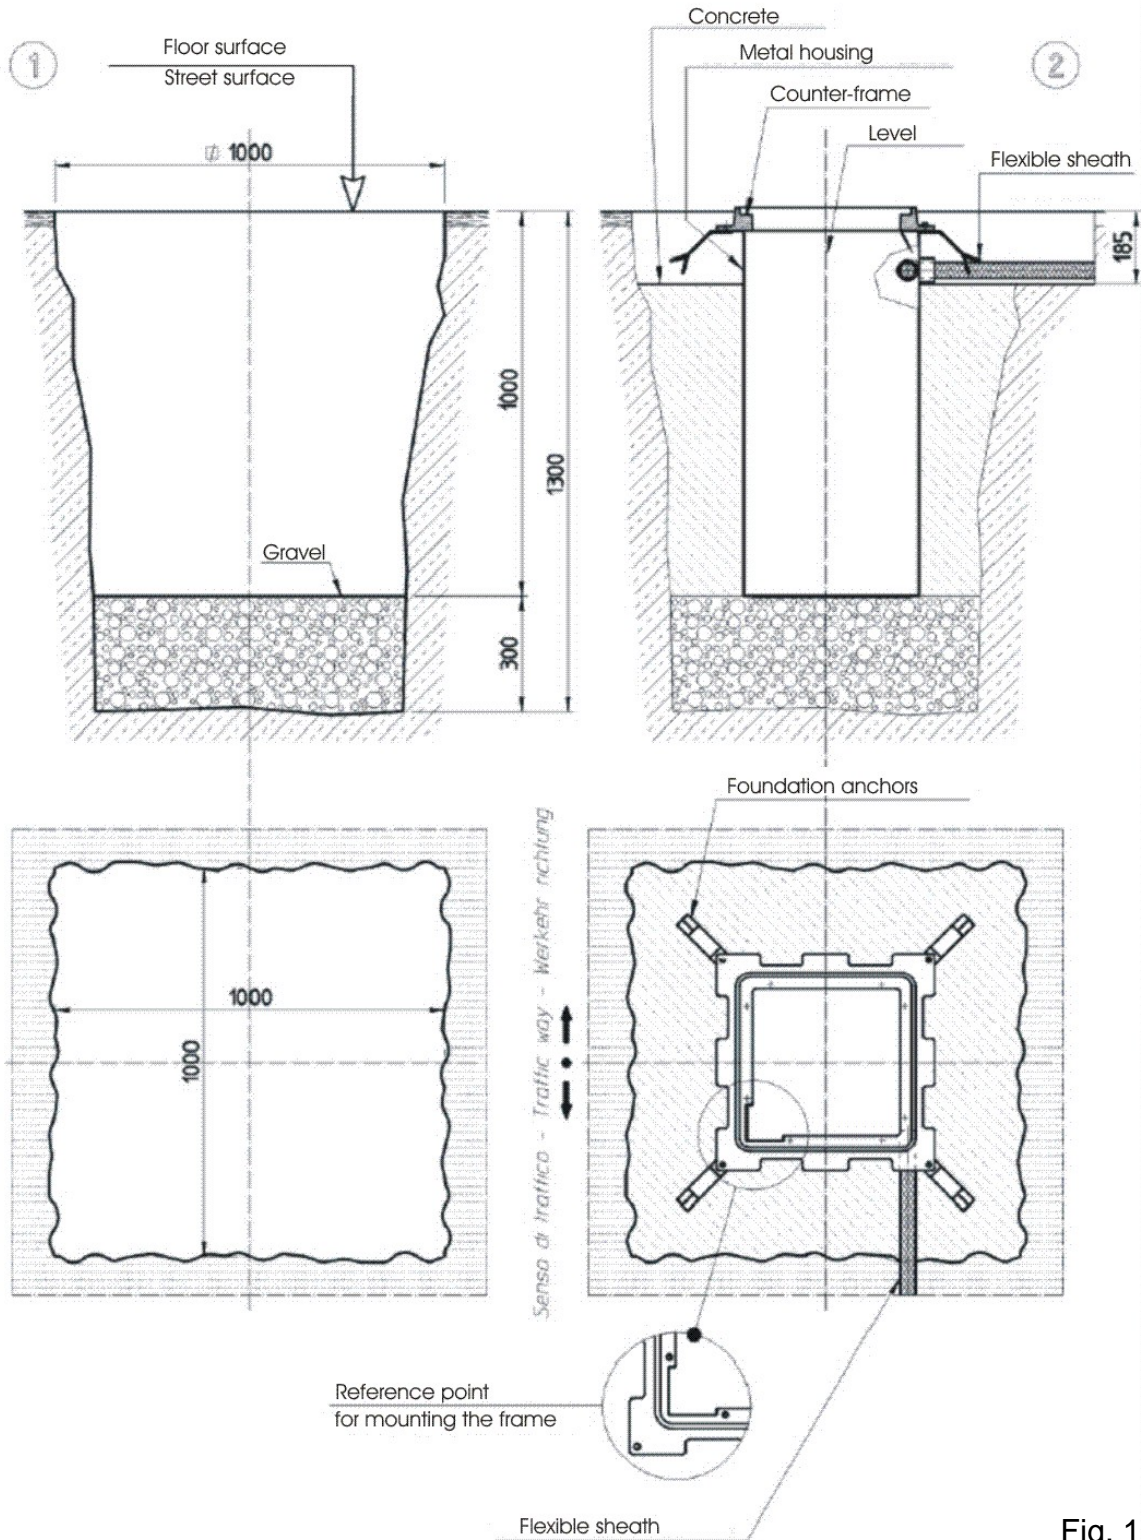
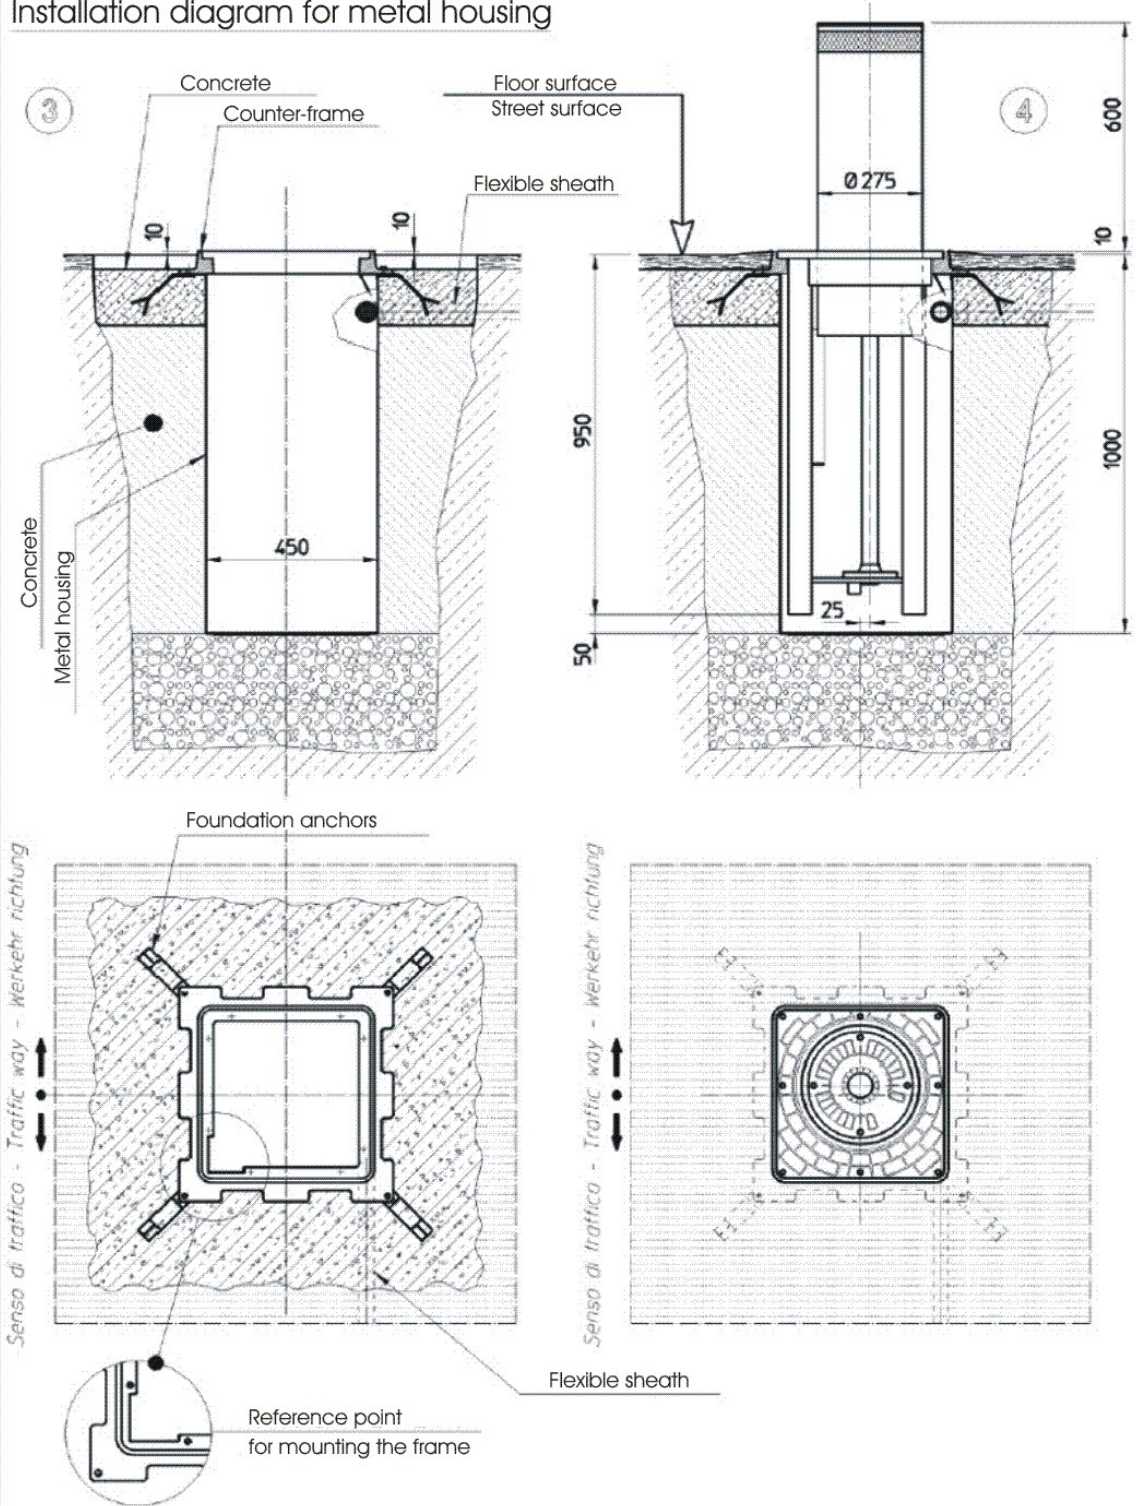

Fig. 1
Fig. 2
- 2) Dig up to a depth of about **1.30 m** (275 H600) or about **1.50 m** (275 H800); the cross-section shall have a side of about **1 m** (fig. 1 and fig. 2).
- 5) Install the metallic pit complete with counter-frame, taking care to position it vertical. The top level of the counter-frame must be approx. 10mm higher than the floor surface (to limit the inlet of rainwater in the pit). **Place the pit checking the reference of the counter-frame according to the sense of direction (fig. 1 and fig. 2).**